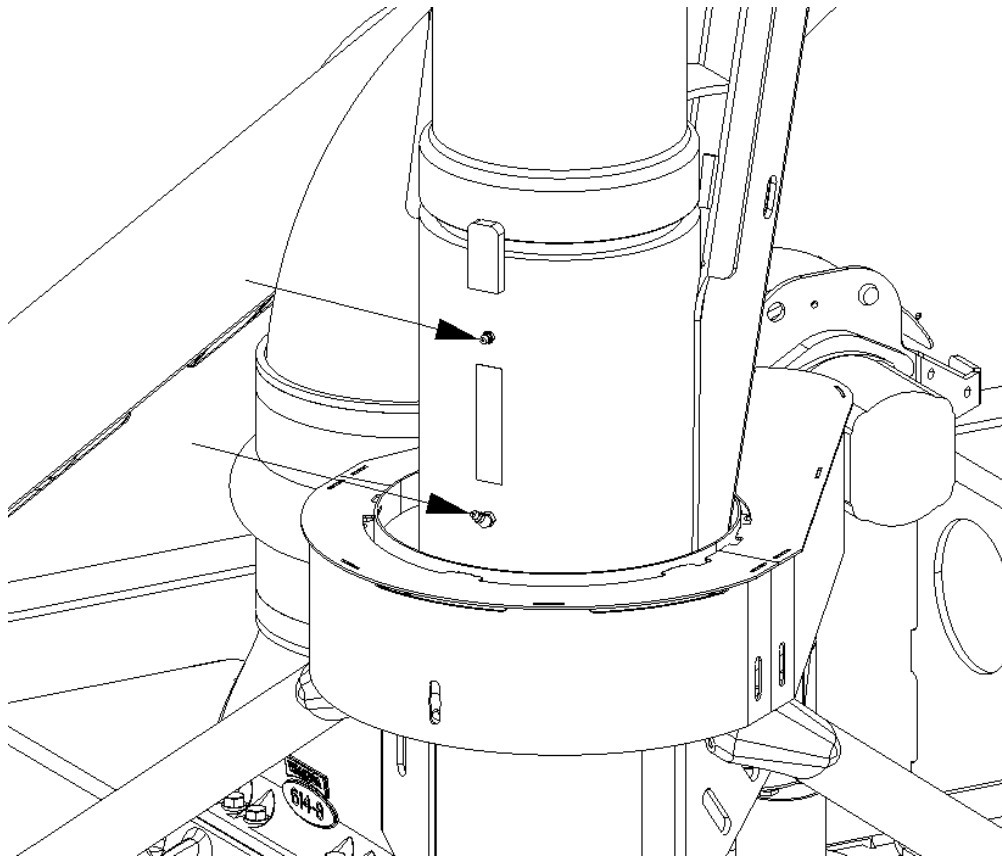

Figure 7-23: Boom swivel lubrication locations
5. Lubricate the boom swivel in the two locations shown in **Figure 7-23**.